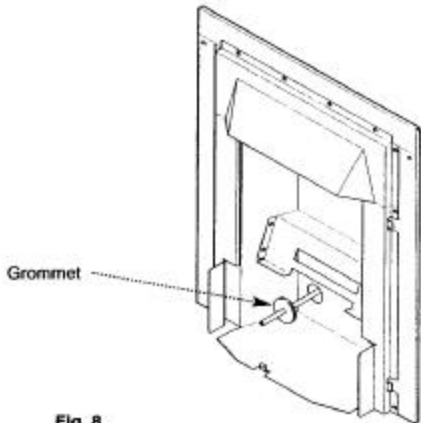
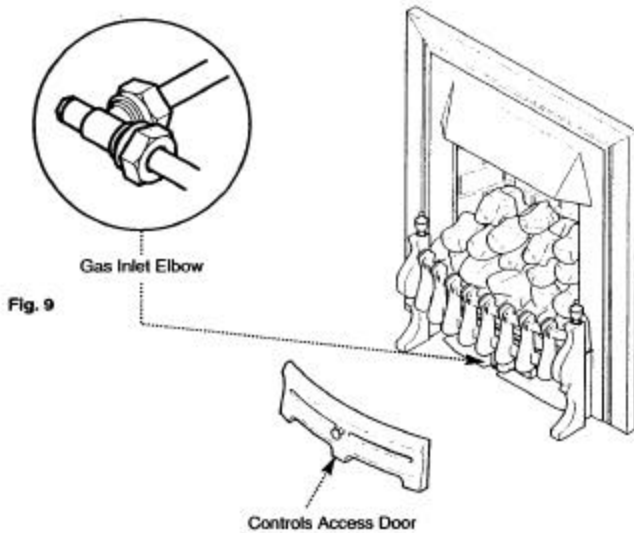

Fig. 8
Fig. 9
3. It is necessary to remove the grommet from the left hand hole in the fire back panel. The grommet must be cut in order to accommodate the gas pipe and replaced as in Fig. 8. The pipe can then be routed to the inlet elbow. (Fig. 9)